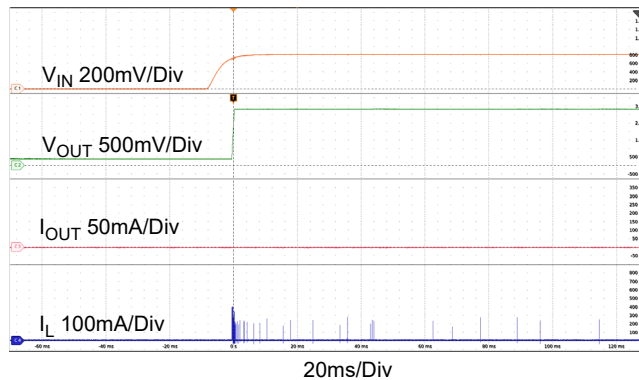

Figure 3. ISL9116B Start-Up with  $V_{IN} = 0.8\text{V}$  and  $V_{OUT} = 3.3\text{V}$
The default output voltage is set at 3.3V. Use the following procedures to configure and power up the board properly. During the power-on process, the expected waveforms are shown in Figure 3.
6. Monitor the output voltage start-up sequence on the scope. The waveforms should look similar to those shown in Figure 3.